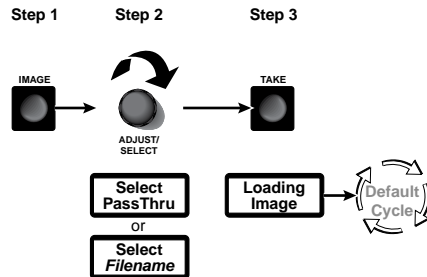

Figure 8. Selecting an image
1. Press and release the Image button (see figure 8).